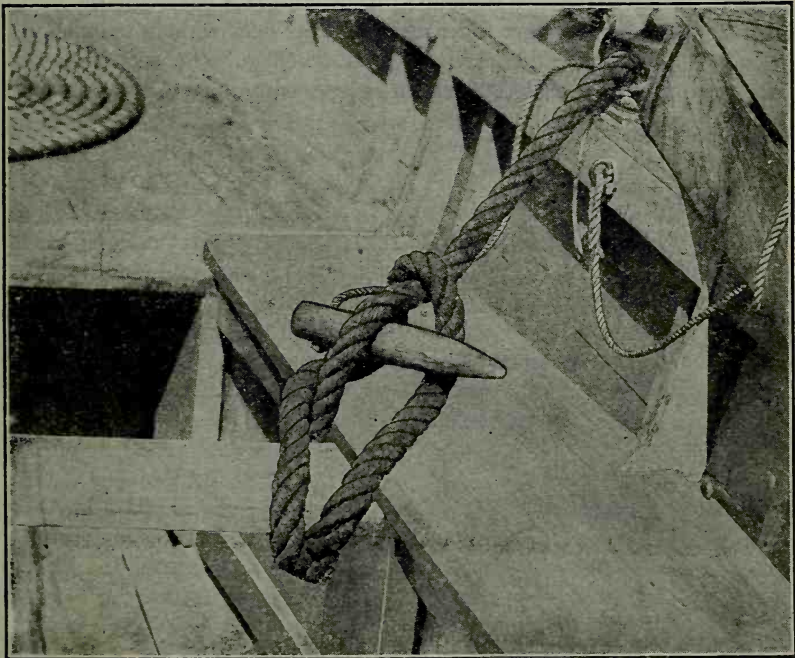

FIG. 32-5—Method of securing sea painter.
**Notes on lifeboats.**—(1) Lifeboats should be griped securely against their strongbacks, with chafing pads between the boat and the strongbacks. The gripes should be secured to the davits, across the quarters of the boat, and be secured at the deck by toggle or pelican hook, ready for instant freeing.
(2) If gripes stretch and become slack, they should be set up taut.
(3) At night, boat falls should be coiled down on deck, clear for running; during the day, the coils may be triced up to davit with becket and toggle.
(4) Where Raymond automatic releasing hooks are fitted, falls should be rove continuous between davit heads.
(5) The sea painter is led from a point well forward on the ship, outside of everything, and secured to the inboard side of the second thwart in such a manner that it can be readily cast off; if necessary, it is stopped up out of the water by a rope yarn. (Fig. 32-5.)